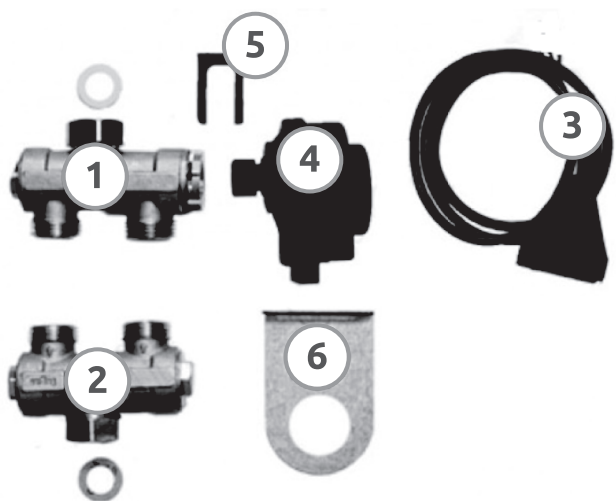

Figure 20 - Connection kit (FUGAS).
- 1) Separating three-way valve (item 1 of Figure 20) with electric drive (item 4 of Figure 20);
- 2) Tee ¾ "(position 2 of Figure 20);
- 3) Power cable of the three-way valve drive (item 3 of Figure 20);
- 4) Mounting brackets for the three-way valve drive (items 5, 6 of Figure 20).